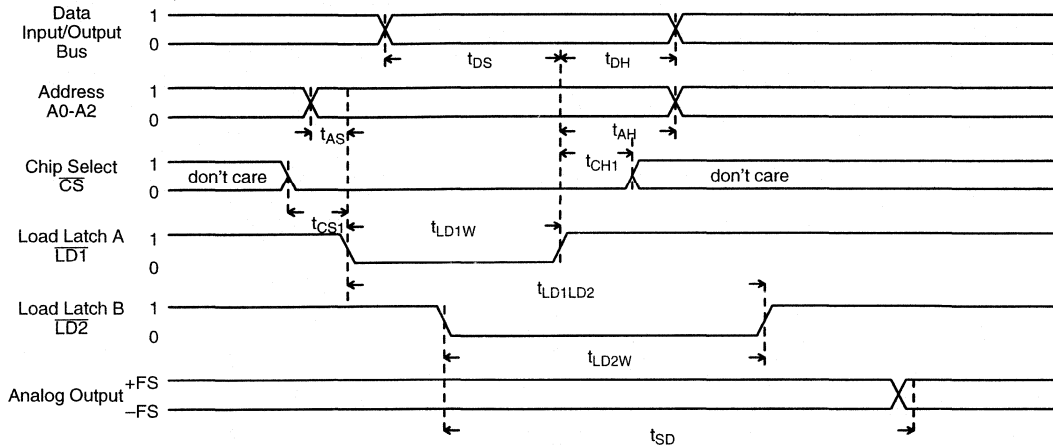

Figure 1. Loading Latch A and Updating Latch B
- See Figures 1, 2 and 3. All digital input signals are specified with t_R = t_F = 10 ns 10% to 90% and timed from a 50% voltage level.